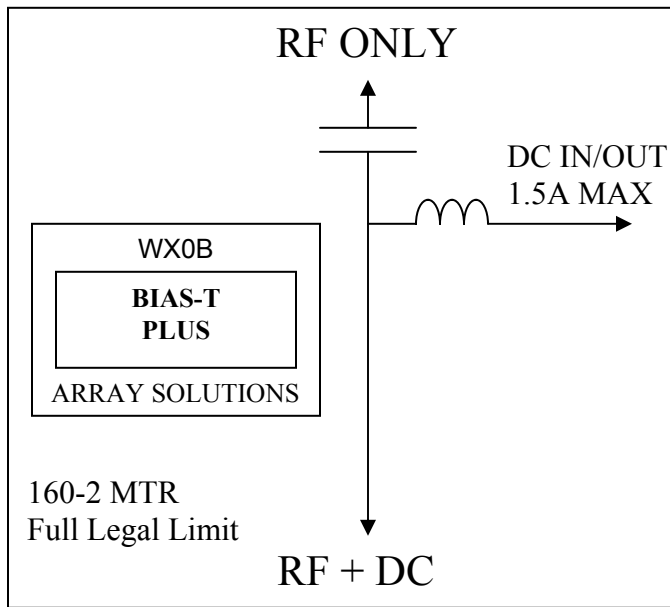

Figure 2: Bias-T PLUS Cover Label
**Note:** It is very important to pay attention to the orientation of the Bias-T PLUS in your system so that you do not apply DC bias voltage directly to your transceiver or amplifier RF connector. I.e., the DC-blocked side (RF ONLY) should *always* be the side connected to your transceiver or amplifier. Figure 2 shows the connection/flow diagram of the Bias-T PLUS.